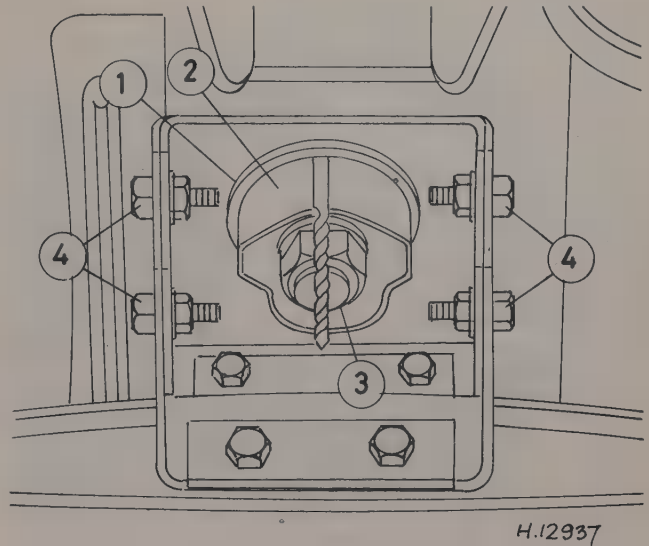

Fig. 7.6 Adjustment of bump stop with elliptical rubber (Sec 3)
- (h) Where a bump stop is fitted, the bracket must be centralised before tightening the bolts. With the circular bump stop rubber this is straightforward but with the elliptical rubber, refer to Figs. 7.6 and 7.7. A 5.0 mm (0.2 in) diameter twist drill should be used to set the clearance between the rear of the rubber and the bracket.